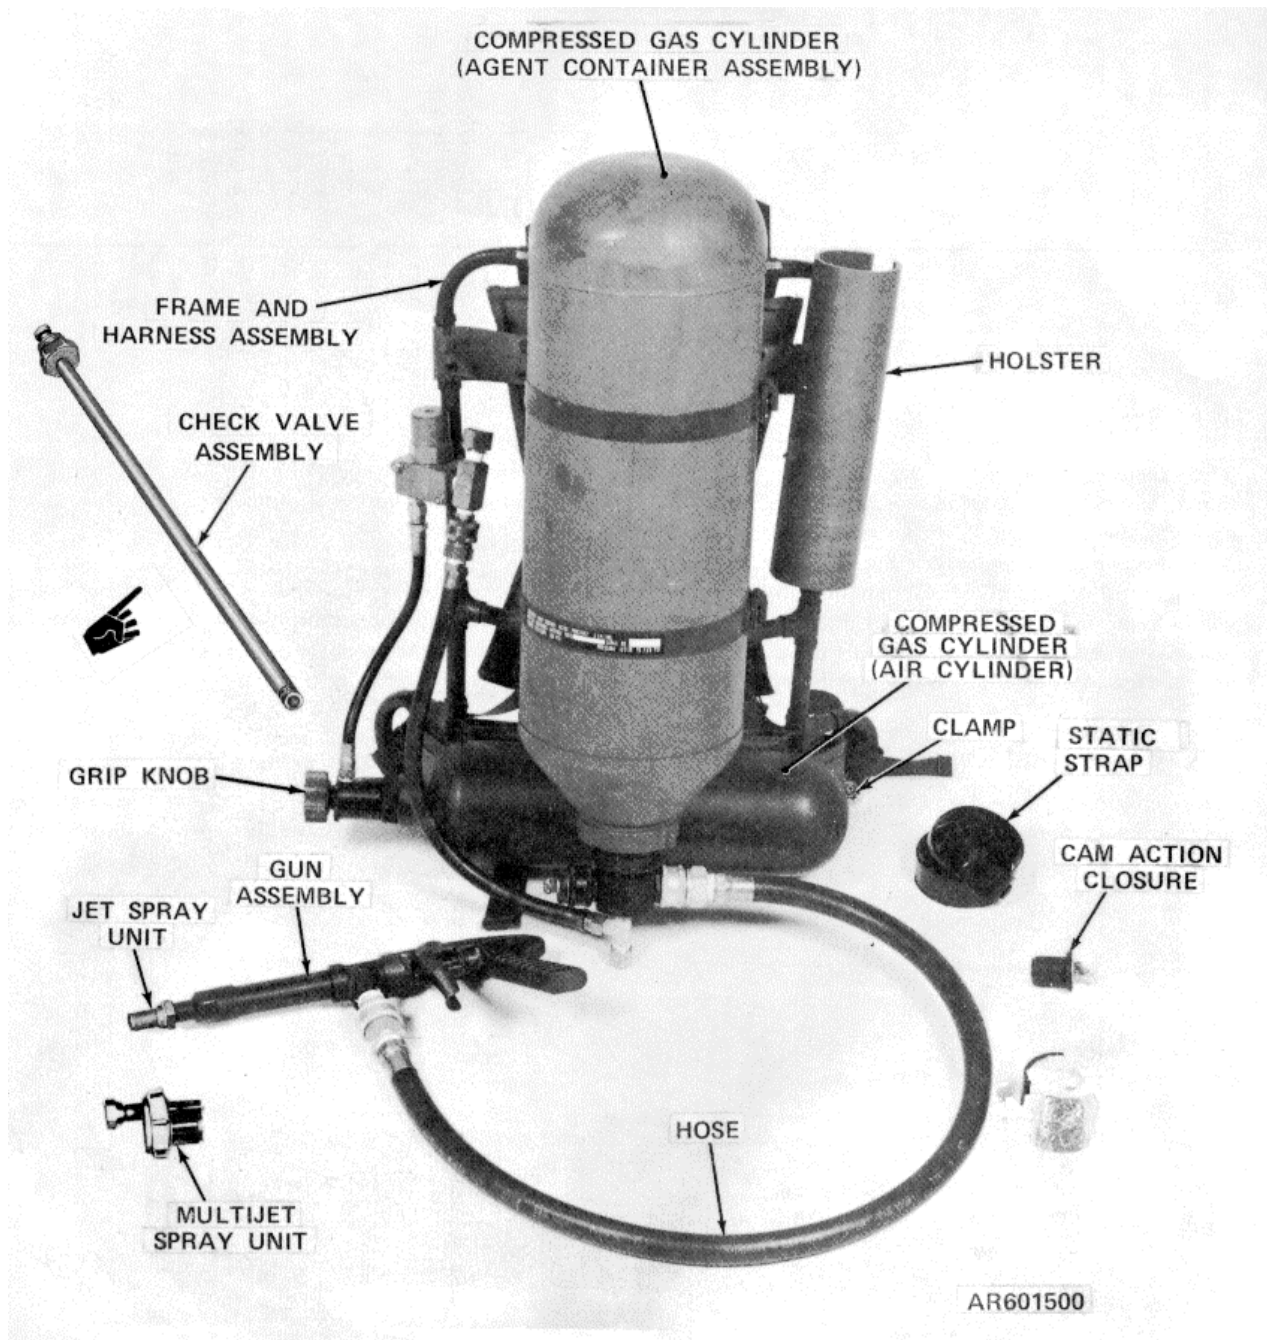

Figure 1-1. M33A1 Portable Riot Control Agent Dispenser.
a. Dispenser. The dispenser (fig. 1-1) consists of a frame and harness assembly, a compressed gas cylinder (agent container assembly), an air pressure assembly, a gun and hose assembly, multijet spray unit, and check valve assembly.
f. *Basic Issue Items (Accessories).* The basic issue items are shown in figure B-1. The clamp, cam action closure, static strap, and support collar are shown in figure 1-1. The spare air cylinder and the agent n container